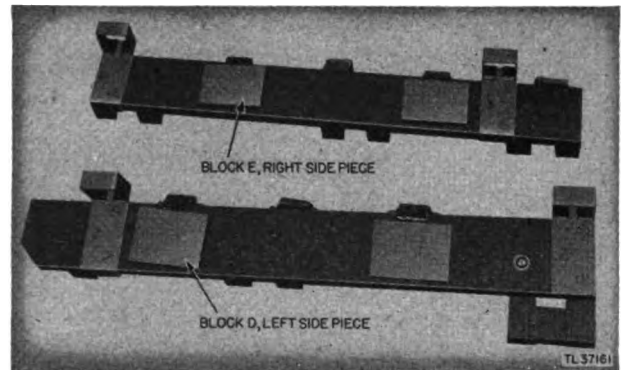

Figure 116.
i. Before blocks D and E are installed, they will have to be arranged for either the steel or wooden trailer. The hinged blocks will be on the inside of the side pieces for the wooden trailer and on the outside for the metal trailer (figs. 116 and 117).